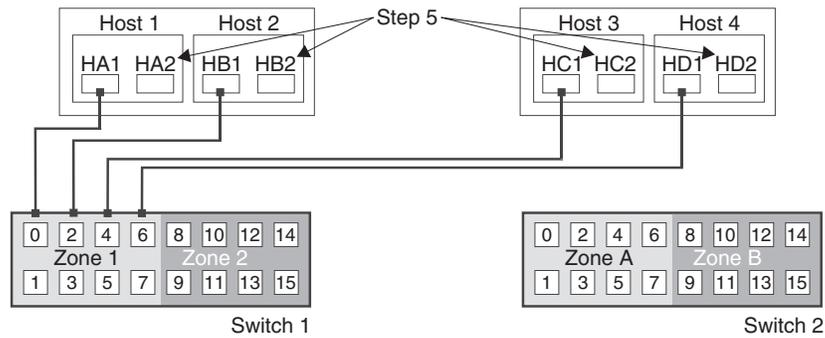

Figure 30. Secondary host bus adapter (Hx2) connection to the Fibre Channel switches
5. Connect the secondary host bus adapter (Hx2) for each host to an available port in Zone A of Switch 2, as shown in Figure 30.